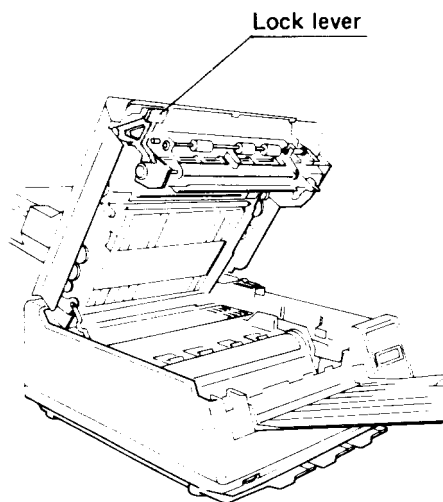

Figure 2-2 Opening the top cover
- a. Open the top cover by pushing up on the cover lock lever and lifting the cover to its open position. Refer to Figure 2-2.